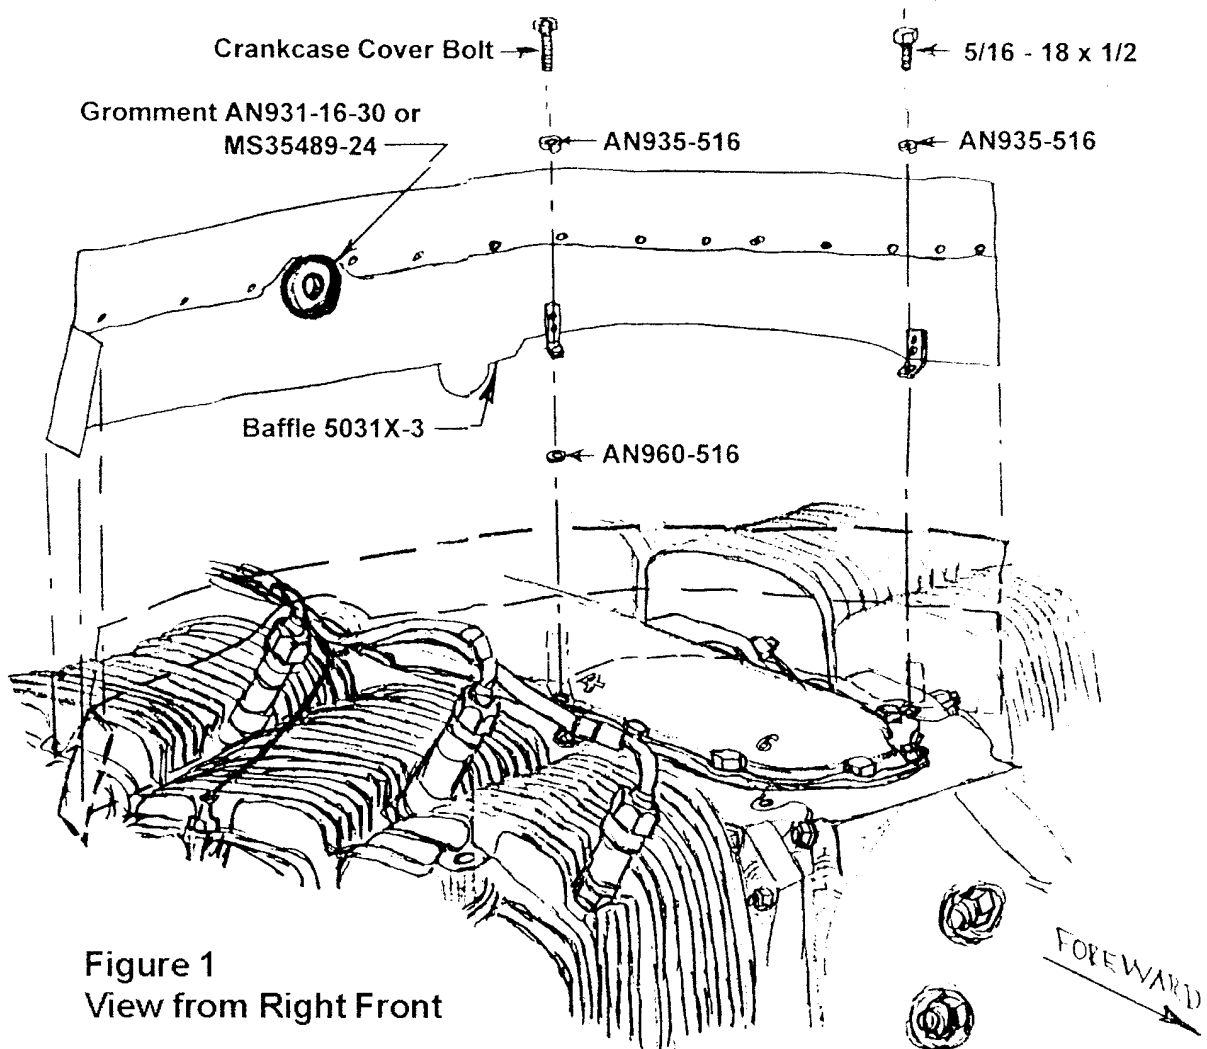

Figure 1
4. Remove the Top Crankcase Bolt as shown on Figure 1.
5. Install the Baffle in the position shown in Figure 1.
7. Use a Lock Washer p/n AN935-516, over the other Brace and secure with a 5/16 - 18 x 1/2" long Bolt to the Cylinder Base Temperature Probe Hole as shown in Figure 1.